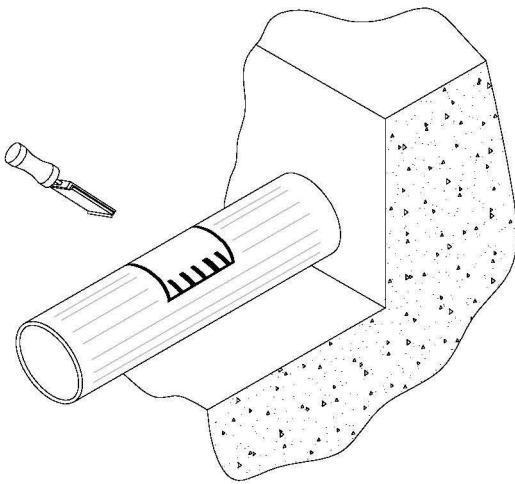

Figure A7 - Scraping of pipe
6. Scrape the whole area outlined using an approved scraper (Figure A7).